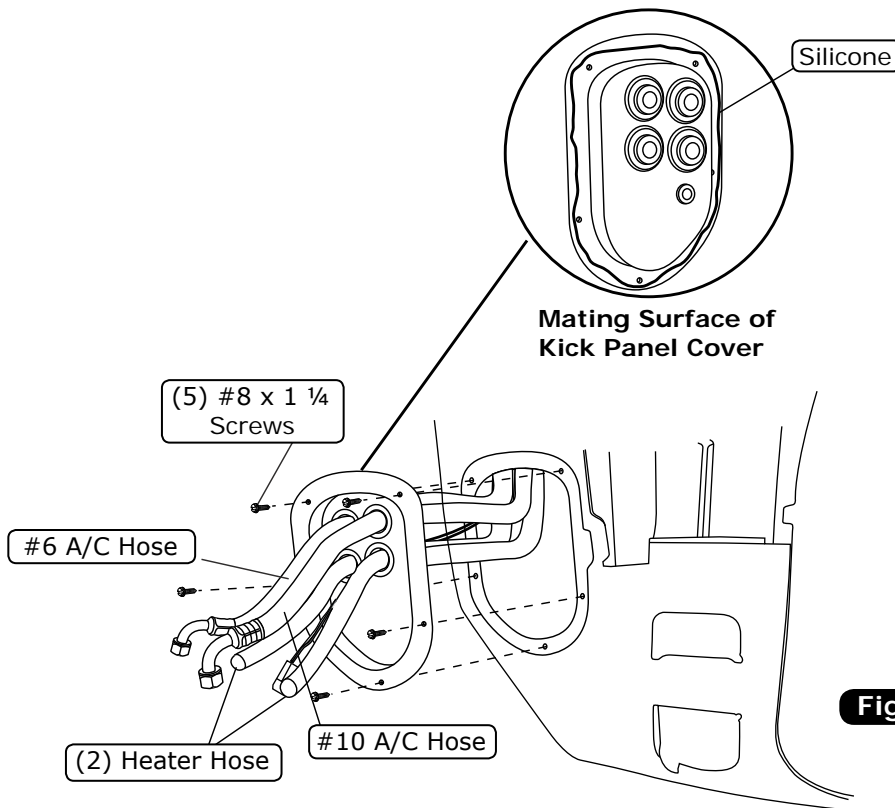

Figure 1
1. Route the A/C and heater hoses through the kick panel cover as shown in Figure 1, below.
2. Apply 1/4" bead of silicone around the back side of the kick panel cover as shown in Figure 1, below.
3. Secure the kick panel cover using (5) #8 x 1 1/4" screws as shown in Figure 1, below.